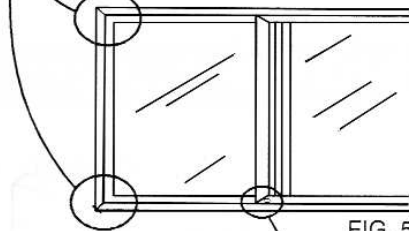

FIG. 5
1. Push the fixed panel against the jamb. (FIG. 5)
NOTE: Location of security lock is suggested in the illustration but actual placement is left up to the user. (FIG. 5)